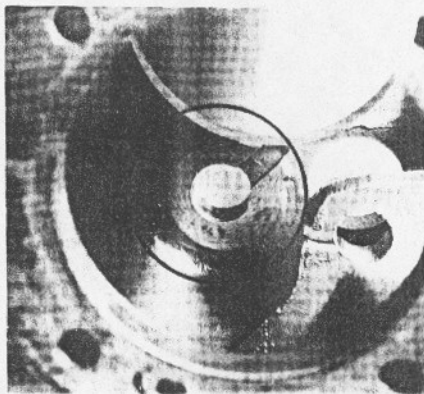

Figure 23 — Counter gear rear thrust surface.
6. Measure run out of counter gear rear thrust surface in case and do not use case if run out exceeds .005". (Figure 23, page 4-12)